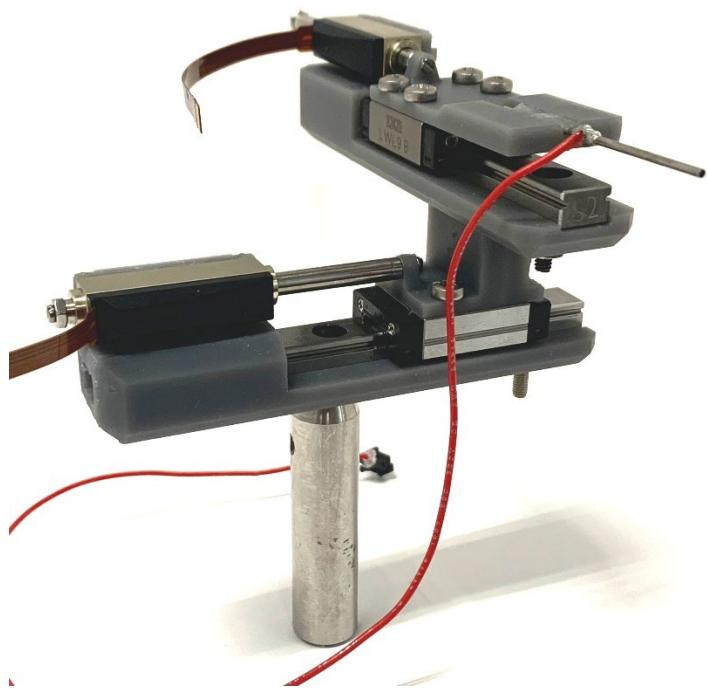

Figure 49 Completed 2D positionable spout
- See Figure 49 for an image of the assembled 2D spout mount